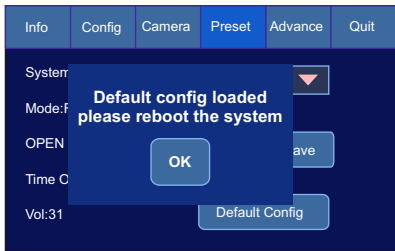

Figure 4.32
- 2.After resuming to default configuration, it will display a prompt reading **"Default config loaded. Please reboot the system"** along with "Yes" and "No" buttons.(See Figure 4.32)